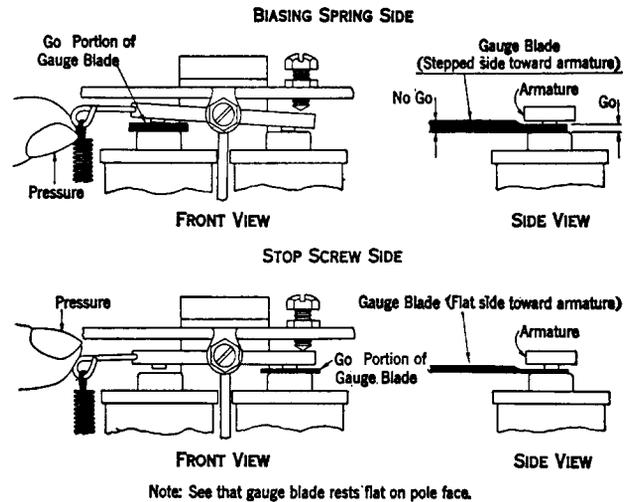

Fig. 4 — Method of Checking Airgaps on Ringers of Types 2, 6, 7, 8, 42, 48, 52, 66, 68, 72, and 78
3.04 Tables A, B, and C and Figs. 4, 5, 6, and 7 show procedures, methods, and requirements necessary to check and adjust the airgap of numbered-type ringers.
All	Apply gauges as shown in Figs. 4, 5, 6, and 7 while applying slight pressure on biasing spring hook.